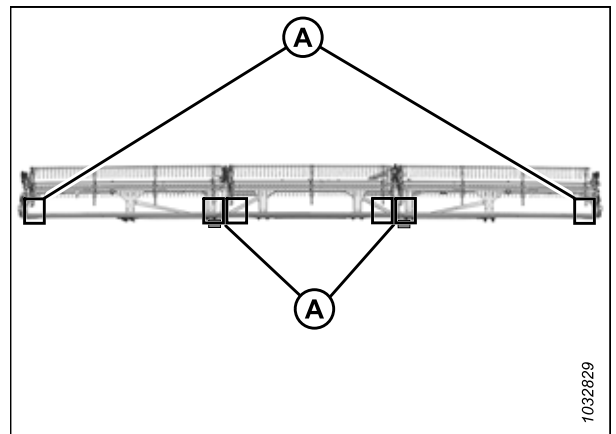

Figure 4.266: FlexDraper® Measurement Locations – Triple Reel
- Triple-reel headers: Figure 4.266, page 425